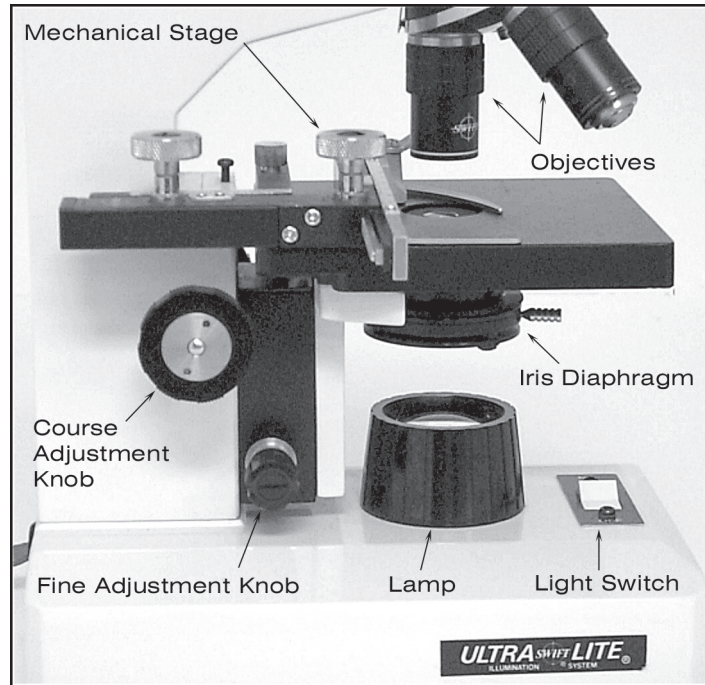

Figure R3.2 | Features D-J of the Swift Microscope
Basically a housing for a lens (Figure R3.2). The microscopes in this lab have three objective lenses—4X, 10X and 40X (some have a 43X instead). Like the ocular lens, these lenses by themselves would magnify an object to 4, 10, or 40 (43) times its actual size.
(Figure R3.2) To be viewed, the specimen slide rests on this part of the microscope. The microscopes in lab have mechanical stages. Mechanical stages have knobs on the right side of the stage that allow the user to easily move the slide around on the stage. The slide sits securely between the L-shaped brace on the right and the movable sickle-shaped arm on the left. The knob closest to the slide moves the slide left to right, the other knob moves the slide front to back.
The larger of two sets of knobs located on either side of the arm just above the base (Figure R3.2). This adjustment is used to make large adjustments in focusing. It does this by moving the stage up and down. Because of this it is best to only use the coarse adjustment knob when the lowest power objective (4X) is in place.
The smaller of two sets of knobs located on either side of the arm just above the base (Figure R3.2). This adjustment is used to make small (fine) adjustments in focusing. It can be used at any magnification, but is most efficiently used after focusing on low power with the coarse adjustment, then making small corrections with the fine adjustment before increasing the magnification. These microscopes are , which means that only small focusing adjustments are necessary when moving to a higher magnification if the object is in focus at a lower magnification.
Located directly under the stage (Figure R3.2). The on/off switch is located directly in front of it. If the light does not come on when the switch is in the on position, check to make sure that the microscope is plugged in. If so, ask the TA to replace the bulb.
(Figure R3.2) The foundation of the microscope.
This allows the user to adjust the amount of light that passes through the specimen. As a general rule, the lowest intensity of light that allows you to resolve the structure of the object you are viewing should be used. Too much light tends to “wash out” details, much like turning the contrast up on a computer monitor or TV screen “washes out” the images on them. There are two types of diaphragms on the microscopes in the lab—the iris and the disc. The iris diaphragm (Figure R3.2) is controlled by turning a small lever located under the left side of the stage. To increase the amount of light, move the lever away from the arm; to decrease it, move the lever toward the arm. The iris diaphragm provides a finer degree of light intensity control. In general, you will need to increase the amount of light passing through